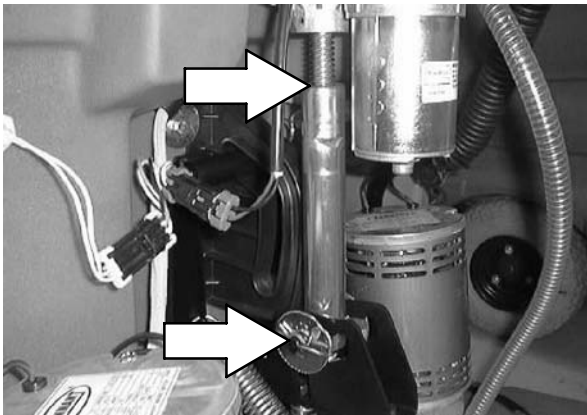

FIG. 5
5. Mark the actuator tube location on the actuator shaft. Refer to FIG. 5.
6. Remove the clevis pin from the actuator and disconnect the actuator from the scrub head. Refer to FIG. 5.